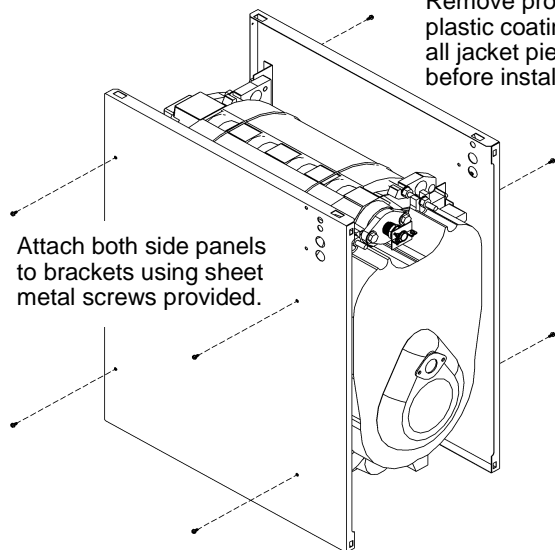

Figure 4-9 Attach HydroStat 3250 Bracket
8. Install control panel between side panels, secure with screws provided (Figure 4-9).